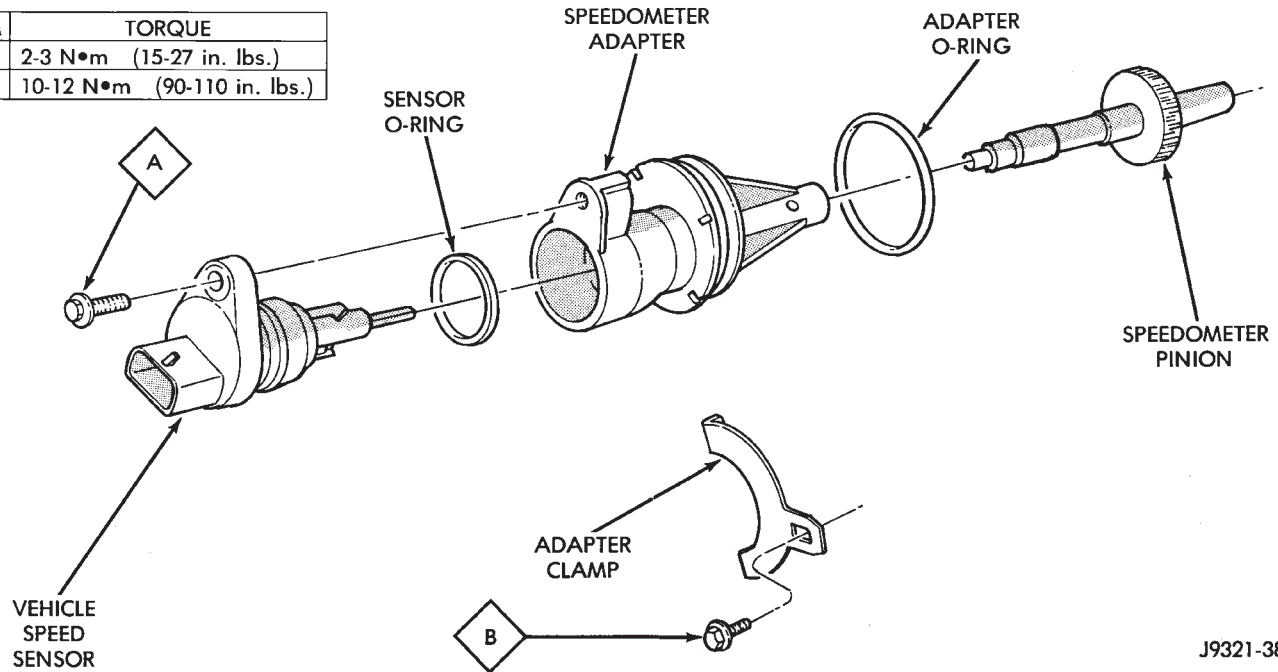
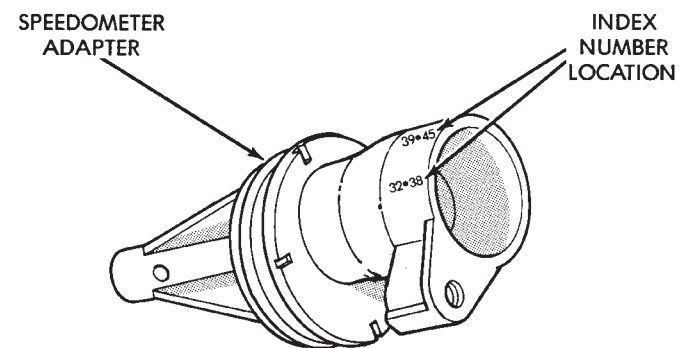

Fig. 22 Speedometer Pinion Adapter Components
Fig. 23 Index Numbers On Speedometer Pinion Adapter
- (1) Raise vehicle.
- (2) Disconnect wires from vehicle speed sensor.
- (3) Remove adapter clamp and screw (Fig. 22).
- (4) Remove speed sensor and speedometer adapter as assembly.
- (5) Remove speed sensor retaining screw and remove sensor from adapter.
- (6) Remove speedometer pinion from adapter.
- (7) Inspect sensor and adapter O-rings (Fig. 22). Remove and discard O-rings if worn or damaged.
- (8) Inspect terminal pins in speed sensor. Clean pins with Mopar® electrical spray cleaner if dirty or oxidized. Replace sensor if faulty, or pins are loose, severely corroded, or damaged.
(2) Install new O-rings on speed sensor and speedometer adapter if necessary (Fig. 22).
(3) Lubricate sensor and adapter O-rings with transmission fluid.
(4) Install vehicle speed sensor in speedometer adapter. Tighten sensor attaching screw to 2-3 N•m (15-27 in. lbs.) torque.
(5) Install speedometer pinion in adapter.
(6) Count number of teeth on speedometer pinion. Do this before installing assembly in housing. Then lubricate pinion teeth with transmission fluid.
(7) Note index numbers on adapter body (Fig. 23). These numbers will correspond to number of teeth on pinion.
(8) Install speedometer assembly in housing.
(9) Rotate adapter until required range numbers are at 6 o'clock position. Be sure range index numbers correspond to number of teeth on pinion gear.
(10) Install speedometer adapter clamp and retaining screw. Tighten clamp screw to 10-12 N•m (90-110 in. lbs.) torque.
(11) Connect wires to vehicle speed sensor.
(12) Lower vehicle and top off transmission fluid level, if necessary.